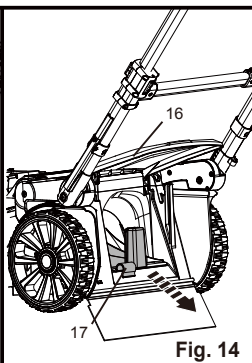

Fig. 14
- Press the locking button to release and remove the mulching plug (Fig. 14).